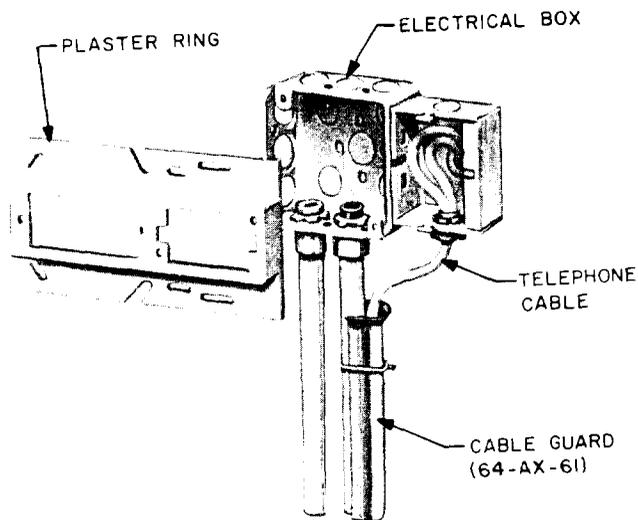

Fig. 8 - Combined Outlet, Backbox Assembly
3.05 In some cases, a backbox will be used instead of the 4-inch electrical box for the telephone service. The installation of this unit is the same as 3.03 and 3.04. (See Fig. 8 and 9.)